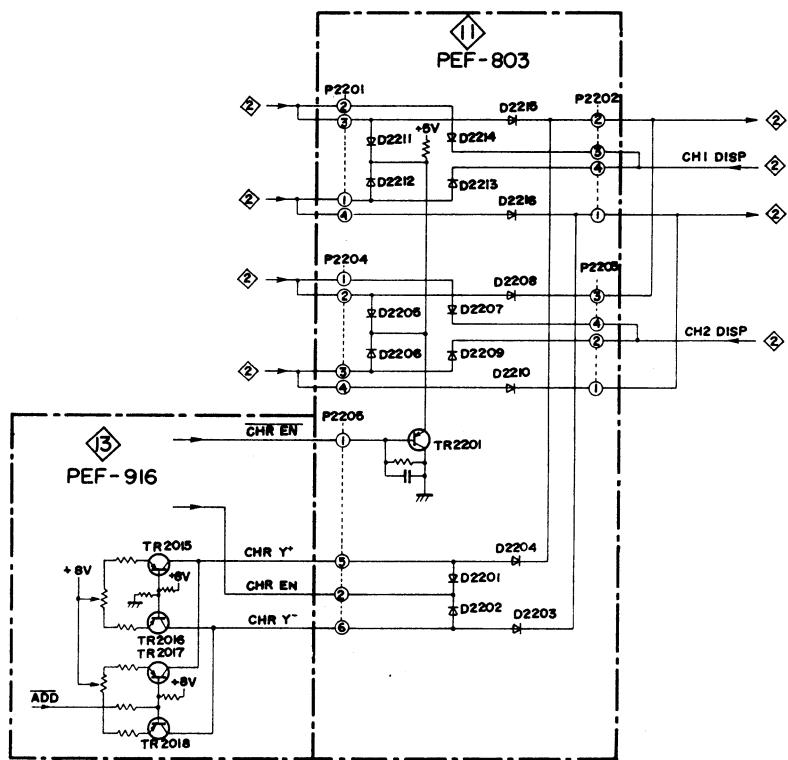

Fig. 5-2
Fig. 5-2 is the comprehensive schematic diagram including the connections. Refer to Fig. 5-2 and the **①** section at the top
The DC balance at the input side of the V AMP (1) is lost according to the above circuit operation. This DC balance is adjusted by the CHR bias circuit (two DIFF AMP's shown in the ⑬ section of Fig. 5-2).